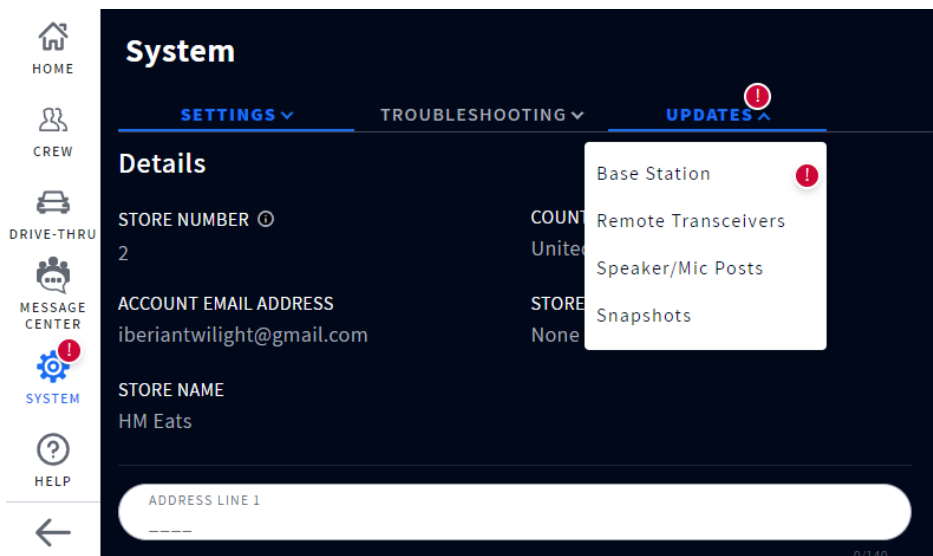

Fig. 6.5
2. Tap on the **UPDATES** tab. In this example, the Base Station option requires attention. See Fig. 6.5.